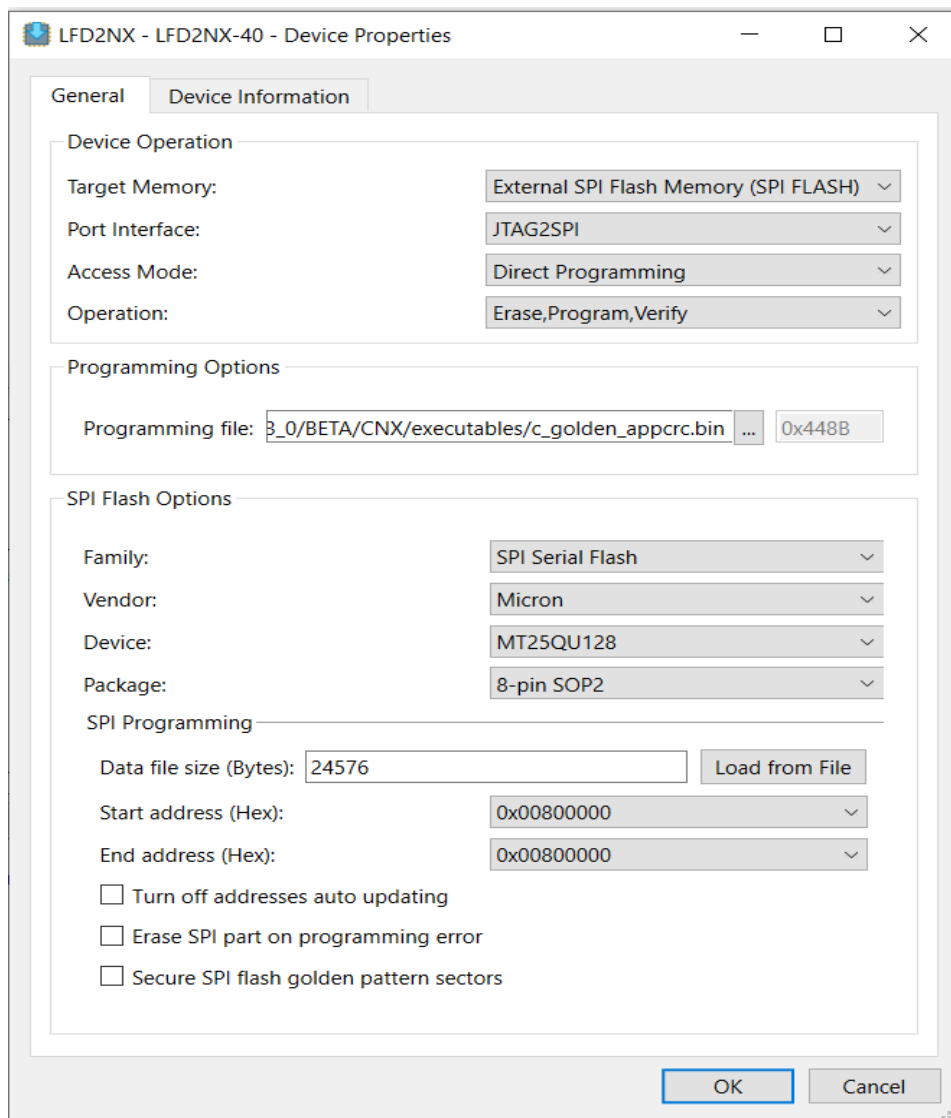

Figure 6.16. Device Properties to Program the Micron SPI Flash
11. To program the **c_golden_apprcr.bin** file into the SPI Flash, Follow the settings as shown in Figure 6.16.